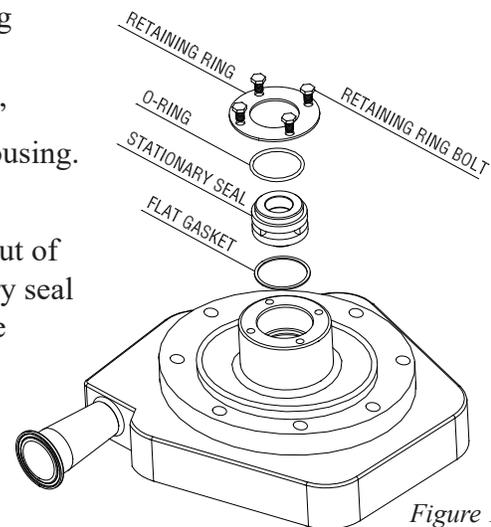

Figure 11
j) Loosen and remove the four housing bolts that pass through the bearing block and thread into the back of the pump housing with the 3/4" wrench. Now carefully slide the pump housing off the pump shaft (17), ensuring that the stationary seal (which is mounted inside the pump housing) does not contact the pump shaft. The stationary seal may be damaged if it makes hard contact with the pump shaft.
k) Place the pump housing (36) face down on the housing studs (49).
l) Loosen the four retaining ring bolts (31) with the 7/16" wrench and remove them from the hub of the pump housing. Remove the seal retaining ring (32).
m) Place a finger through the stationary seal and pull it out of the seal cavity and discard (**Figure 11**). If the stationary seal has been in the pump for an extended period, it may be necessary to softly tap it out from the opposite end using a soft-faced hammer.
n) Check the flat gasket (35) in the bottom of the rear cavity. Remove this gasket completely and clean the seal cavity if necessary.